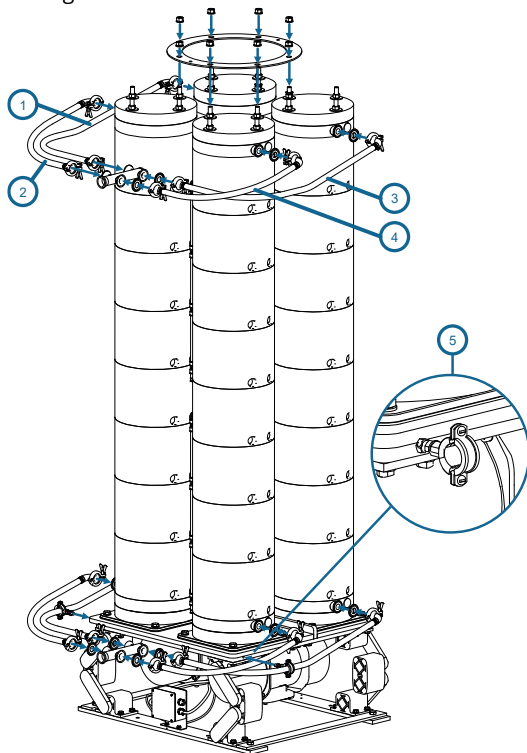

Figure 2
2. Slide the top ring onto the 8 central rods and place eight bolts and washers on top. (Figure 2)
5. Install two hose clamps to the side of the Vibro Base (Figure 2, detail 5)
6. Attach the feed and retentate hose as shown in Figure 2 (1: 1150 mm, 2: 850 mm, 3: 1100 mm, 4: 775 mm), using a gasket and a tri-clamp.
7. Place the two long hoses at the bottom in the hose clamps (Figure 2, detail 5).